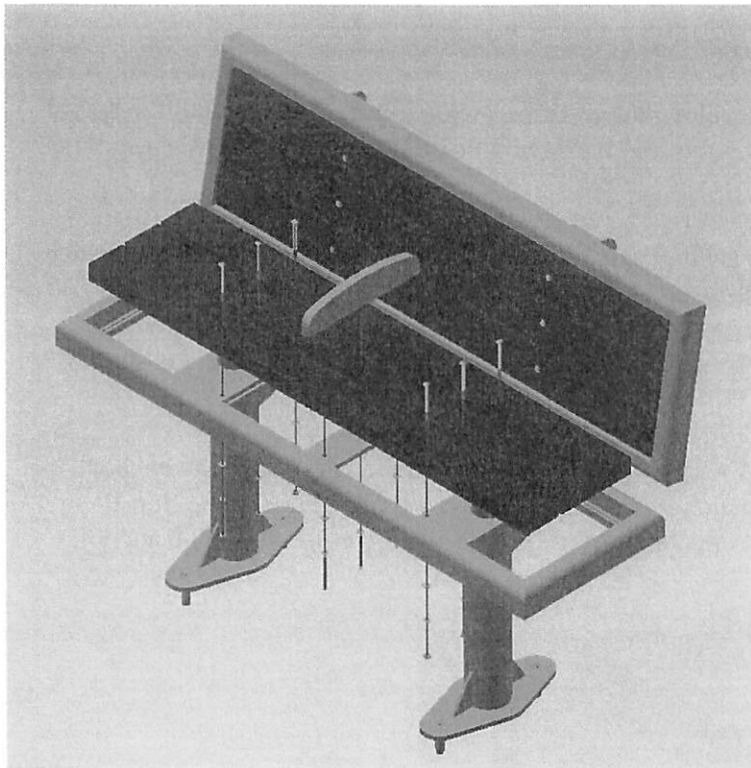

FIG 2
2. Align the recycled material slats (with 3 sets of holes) with the bottom frame of the bench and install using 6 sets of 1/4" hardware listed above as shown in FIG 2.
3. Install the vagrant bar using 3 sets of 1/4" screw, flat washer, and lock washer as shown in FIG 2.